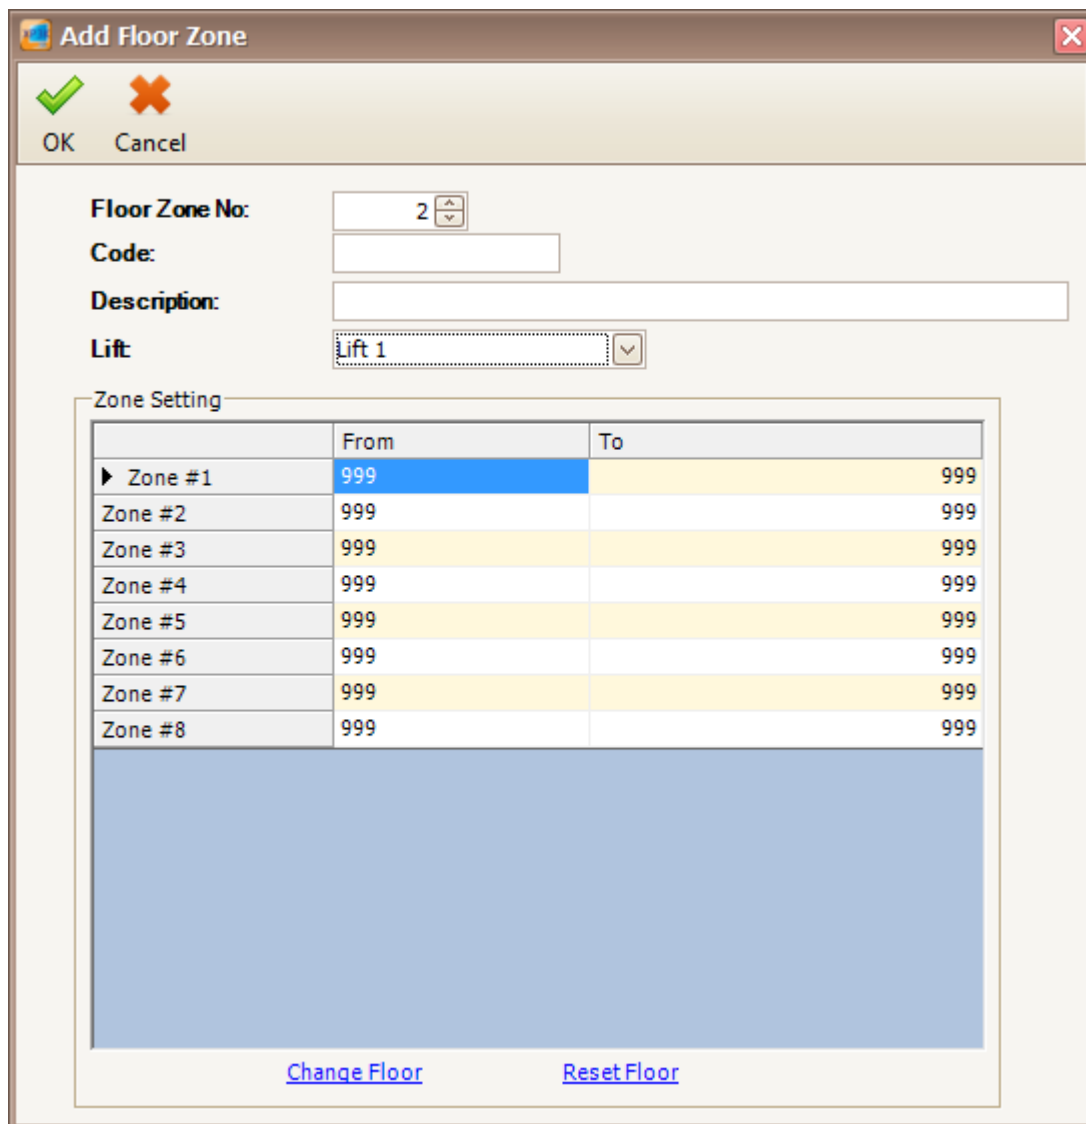

Figure 182 - Add Floor Zone
3. Click Add button to add new floor zone (Refer **Figure 182**).